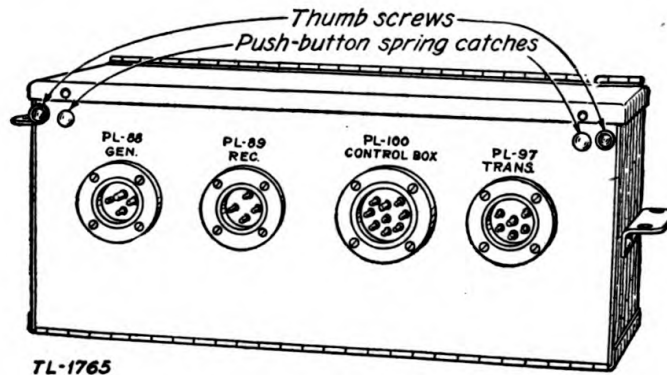
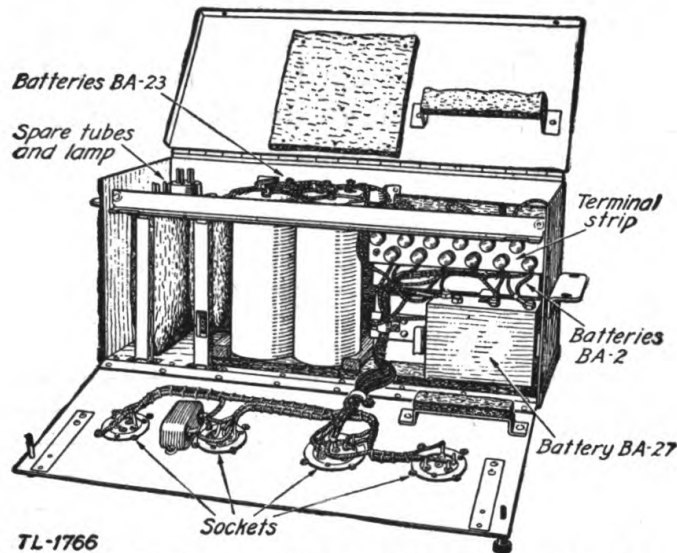

FIGURE 8.—Box BX-12 or BX-12-A, front view, closed.
FIGURE 9.—Box BX-12 or BX-12-A, batteries and spare tubes in place.
15. **Box BX-12 or BX-12-A.**—This is a metal box, shown closed in figure 8 and opened in figure 9, which is mounted on the frame by means of four hexagonal nuts. The hinged cover is held closed by two push-button spring catches protruding through the hinged front. The hinged front is held closed by two thumbscrews at its upper